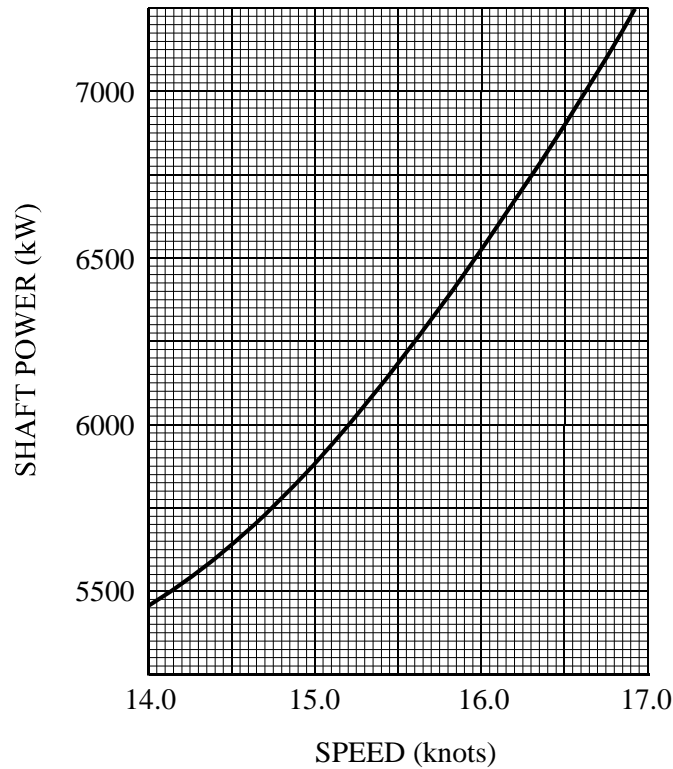

Fig Q5
- (a) Determine the length of the midship compartment. (4)
- (i) draw curves of mass and buoyancy distribution; (8)
- (ii) determine the longitudinal still water bending moment at midships, stating whether it is hogging or sagging. (4)
5. Fig Q5 shows the results of progressive speed trials on a ship at a load displacement of 22350 tonne in sea water of density 1025 kg/m³ with a wetted surface area of 4860 m².